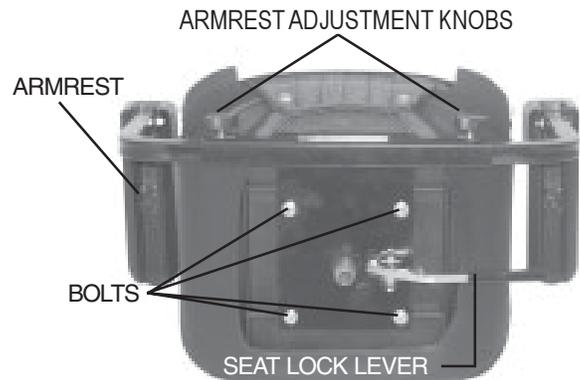

FIGURE 13. SEAT ADJUSTMENTS
1. Pull up on the seat lock lever to unlock the seat. See figure 13.
The scooter armrest width can be adjusted inward or outward. See figure 13.
You can reposition the scooter’s seat forward or rearward to one of three settings, thereby adjusting the distance between the seat and the tiller. See figure 13.